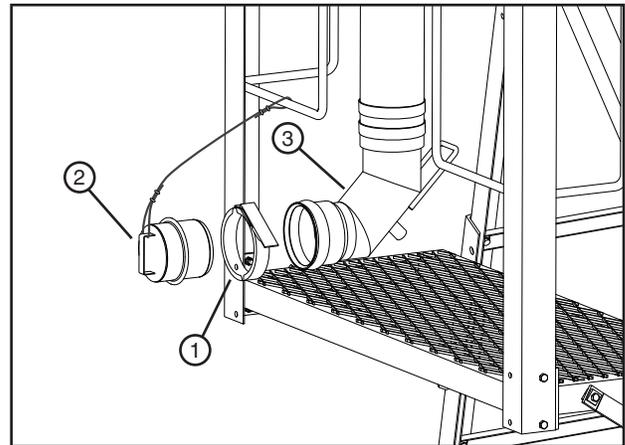

Figure 31-1 1. Ring Lock
8. Remove ring lock and end plug. See Figure 31-1.